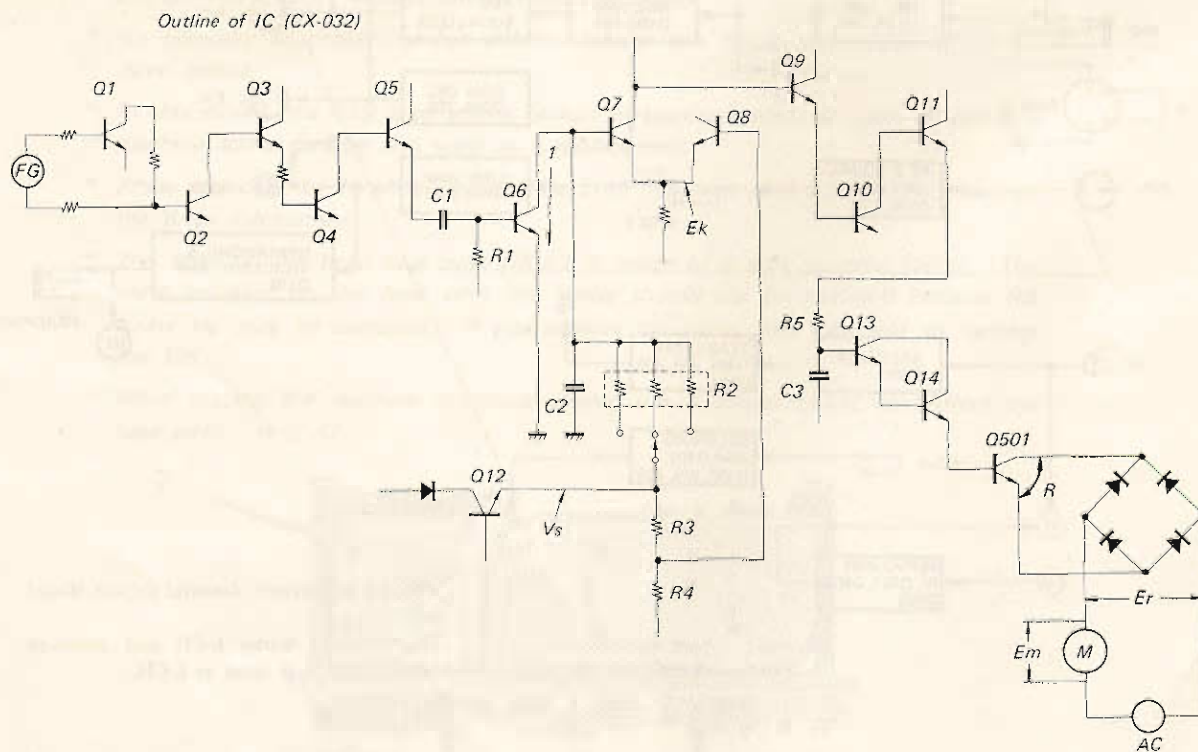
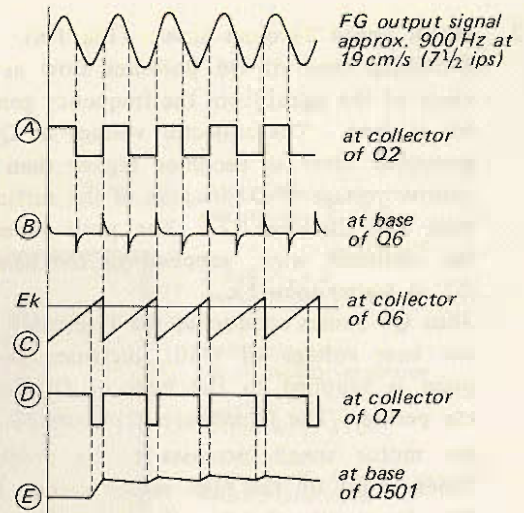

Fig. 1-3. Servo amplifier outline
Fig. 1-4. Waveform at each point
Servo amplifier which varies the impedance R operates as follows. See Figs. 1-3 and 1-4.
1. The sine wave is generated from the frequency generator whose frequency is varied according to the motor speed, and is supplied to the bases of Q1 and Q2. As the bias voltages of Q1 and Q2 are set to saturation region, the sine wave supplied from the frequency generator is waveshaped to the square wave as shown at (A) in Fig. 1-4.
2. The square wave supplied from Q2 is amplified by Q3, Q4 and Q5. It is supplied to the differentiation circuit consisting of C1 and R1 to obtain the pulse as shown at (B) in Fig. 1-4, and is supplied to the base of Q6.
4.  $V_s$  also charges C2 by the time constant of C2 and R2. The charged voltage is applied to the collector of Q6. As the pulse shown at (B) in Fig. 1-4 is supplied to the base of Q6, Q6 repeats ON and OFF. C2 discharges during Q6 is conductive as shown by the arrow 1 in Fig. 1-3. Thus sawtooth wave (C) in Fig. 1-4 is obtained at the collector of Q6.
5. The sawtooth wave is supplied to the base of Q7. As the emitter voltage  $E_k$  is kept constant, Q7 turns ON only when the peak value of the sawtooth wave is higher than  $E_k$ . When Q7 turns ON, the negative pulse (D) in Fig. 1-4 appears at the collector of Q7.
6. This pulse is amplified by Q9, Q10 and Q11, and its polarity is inverted to the positive. The positive pulse is supplied to the integrator consisting of R5 and C3, and is waveshaped as shown at (E) in Fig. 1-4. After being amplified by Q13 and Q14, it is supplied to the base of Q501. Here the motor speed is controlled by the impedance between the collector and emitter of Q501 varied by the amplified signal.